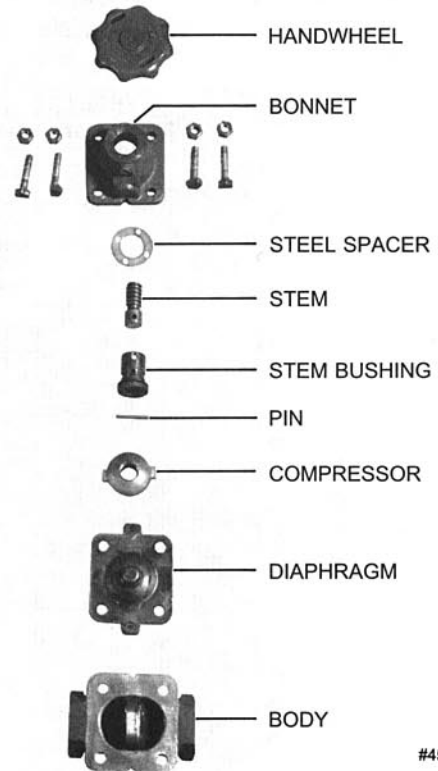

FIG. 20 – EXPLODED VIEW OF DIAPHRAGM TYPE VALVE
A. GRINNEL/SAUNDERS DIAPHRAGM TYPE STOP VALVE – Refer to Figure 20.